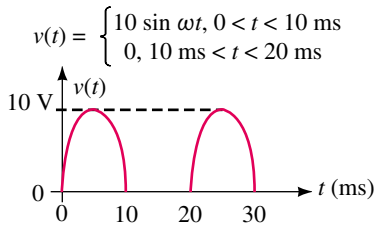

FIGURE 25-54
9. Repeat Problem 7 for the waveform of Figure 25-54.